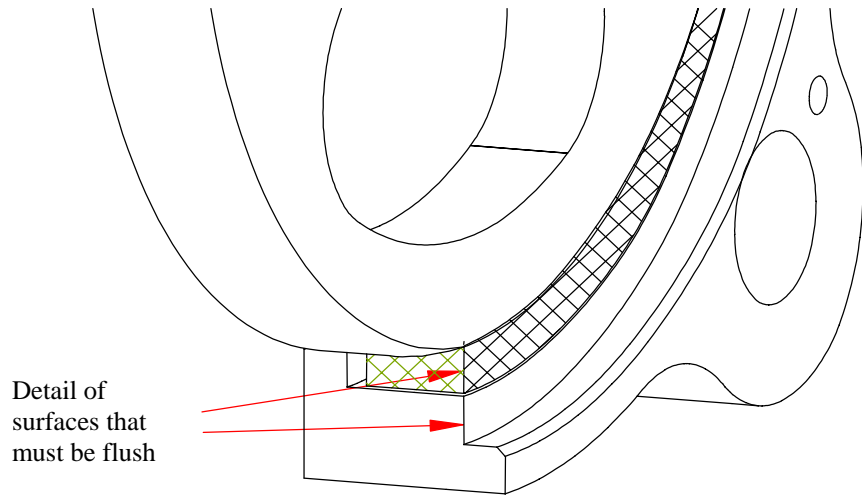

Figure 4: Pulse Wheel Orientation
Figure 4: Pulse Wheel Orientation.....	9
2. Rotate the pulse wheel so the set screw or label “This Side Out” are visible, away from the motor. Slide the pulse wheel onto the motor shaft. Push the wheel along the shaft until the edge of the pulse wheel is flush with the machined recess in the encoder frame. See Figure 4. We recommend you use a straight edge for this purpose. For best results, align the two surfaces to within ± 0.010 inch. The purpose of this step is to properly center the pulse wheel under the sensor.